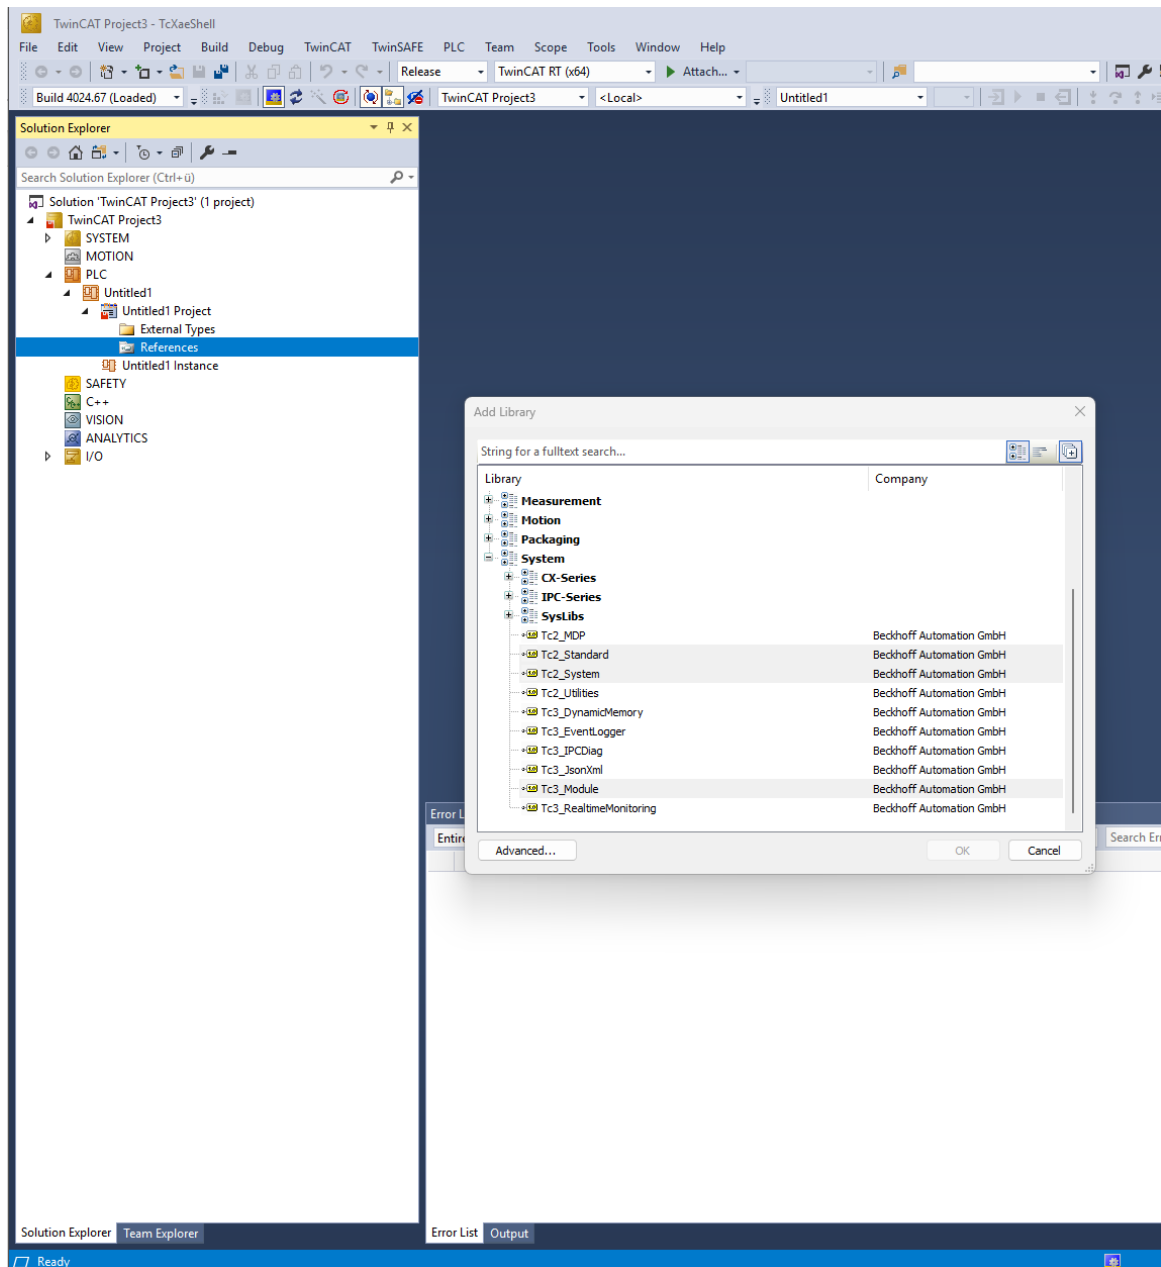

Figure 8: Add PLC libraries
4. Under this added PLC Project, you need to navigate to the References from the drop-down list and right-click and from “Add library” option, find the “System” submenu and add one by one the 3 libraries: Tc2-Standard, Tc2-System, Tc3-Module as seen in Figure 8